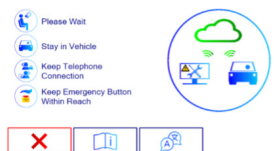

Fig. 6.2
In the meantime, the driver is told how to behave during the remote connection. As long as the Experiment is running, the vehicle driver can switch to ECU reference page (RP) by pressing the red X button on the Driver Touch Display (Fig. 6.2). Afterwards INCA will be closed. Moreover, the driver always has to be sitting in the vehicle to be able to press the emergency stop button mounted in the vehicle at any time.